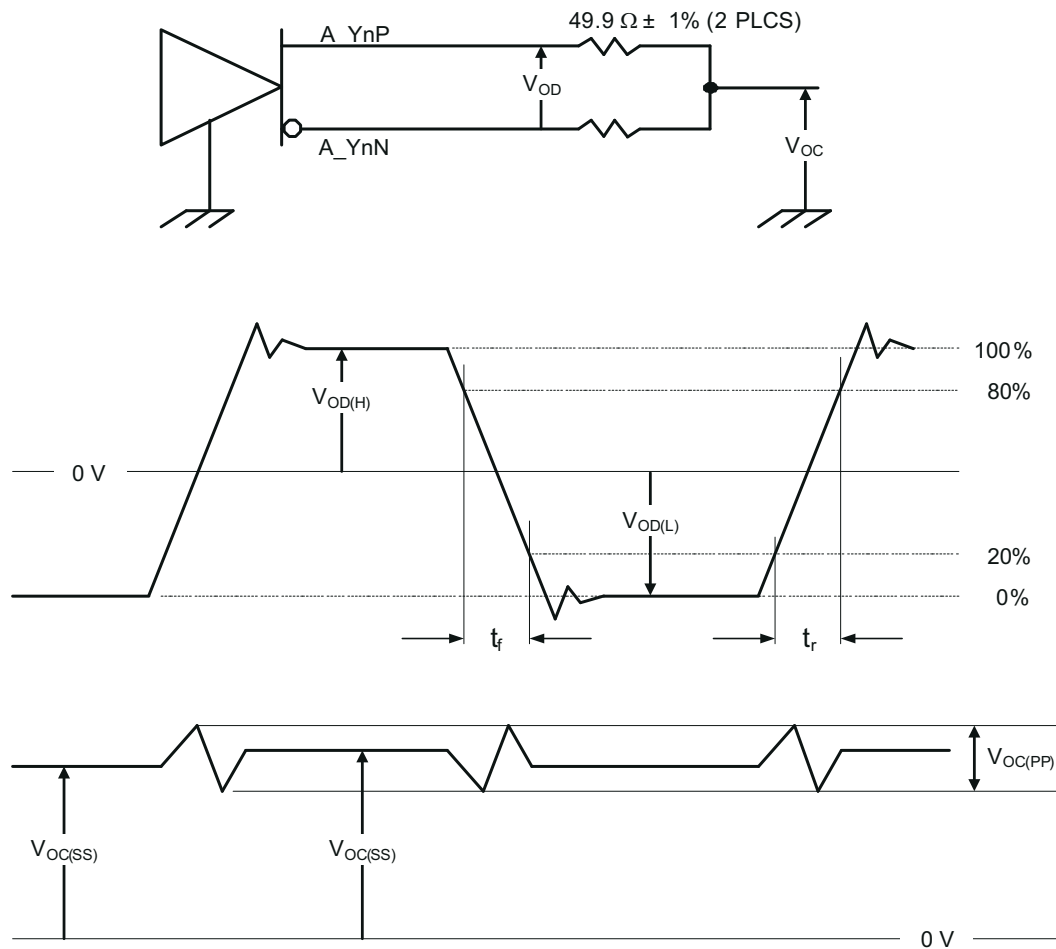

图 6-3. Test Load and Voltage Definitions for FlatLink Outputs
| V OC(SS)         | Steady state common-mode output voltage (3)                            | CSR 0x19.6 = 1 and CSR 0x1B.6 = 1(see 图 6-3) | 0.8  | 0.9                | 1    | V    |
|                             |                                                                                   | CSR 0x19.6 = 0 (see 图 6-3)                       | 1.15 | 1.25               | 1.35 |      |
| V OC(PP)         | Peak-to-peak common-mode output voltage                                           | See 图 6-3                                        |      |                    | 35   | mV   |